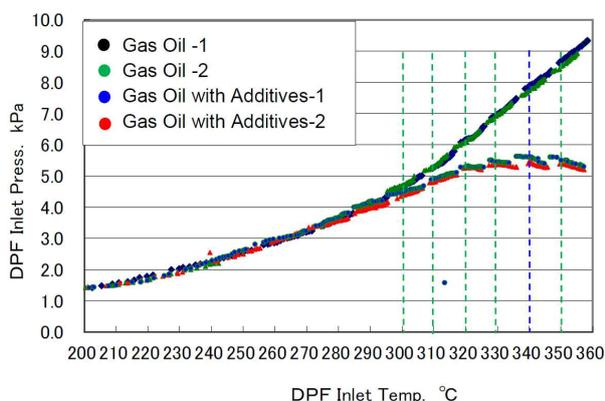

Fig. 1 Relation between DPF inlet temperature and DPF inlet pressure
- (1) Figure 1 shows the relation between DPF inlet temperature and DPF inlet pressure. The catalyst of DPF doesn't function if the temperature doesn't become 300°C or more. The DPF inlet pressure rises because the passage of exhaust gas narrows when PM piles up in DPF.